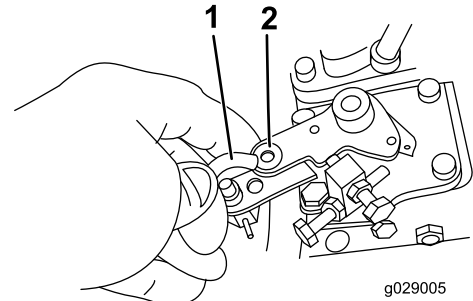

Figure 5
- Separate the solenoid-stop arm from the engine-stop lever (Figure 5).
- Discard the washer (Figure 5).